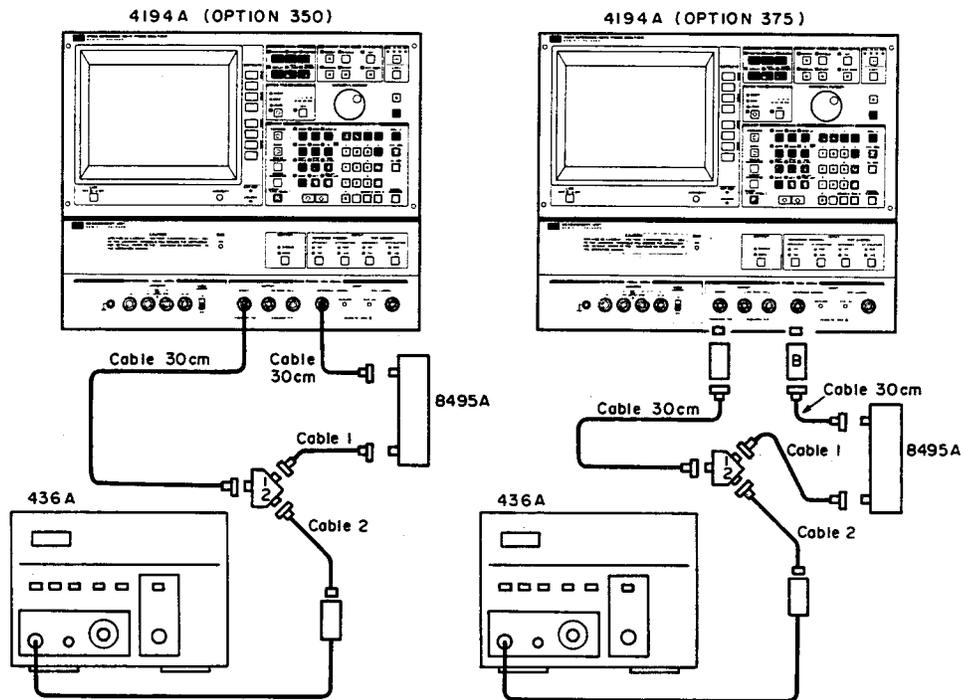

Figure 4-19. Amplitude Measurement Accuracy Test Setup 5.
1. Set up the 4194A as shown in Figure 4-19.